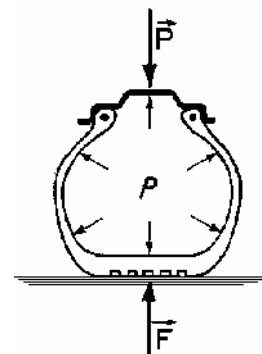

Fig. 3
- supporter la charge (P), (fig. 3)